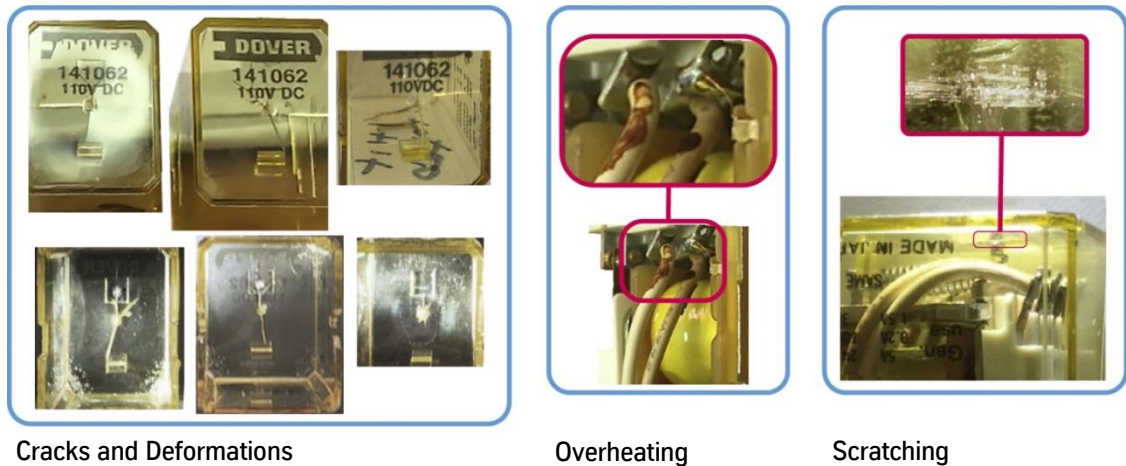

Figure 2 – Relay Damage Examples
1. Visually inspect relays to find damage (see Figure 2).